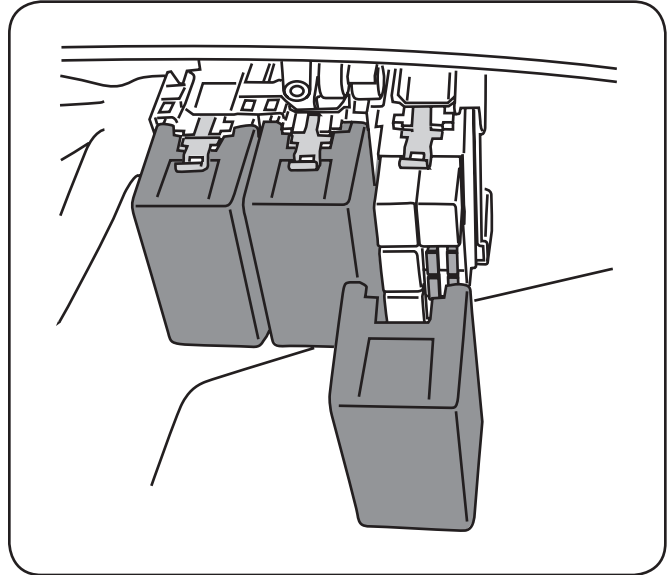

Figure 6-2
2. Remove fuse holder cover. See Fig. 6-2.